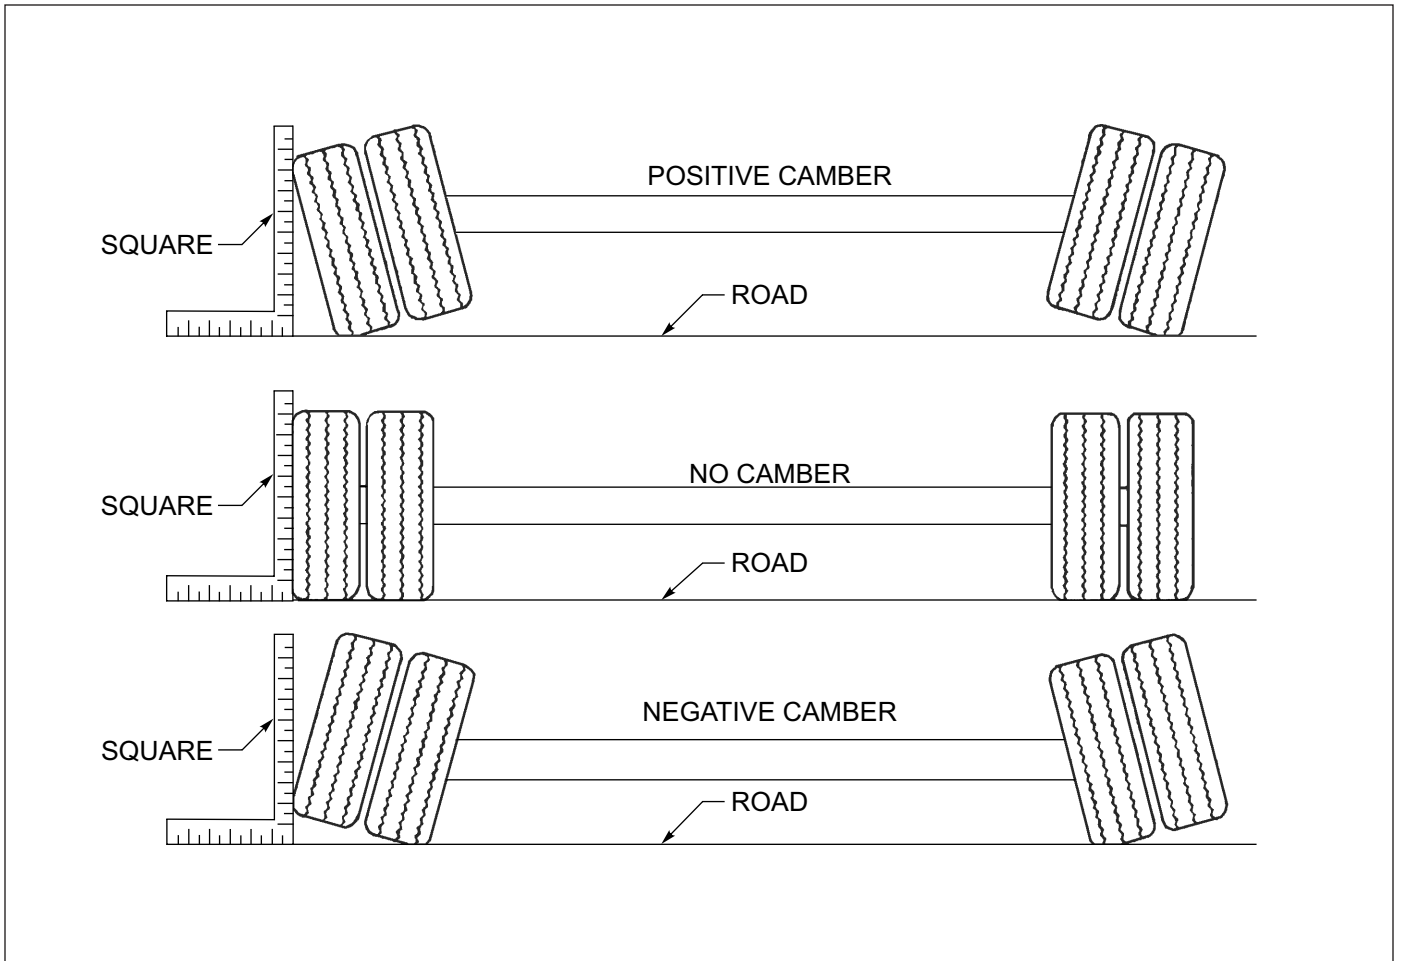

Figure 4-12: Examples of Camber
4. Follow the same procedures as in *steps 2 and 3*, except place the axle gauge above and below the axle. If gauge point gap is found, the axle has positive or negative camber. The trailer axle has no camber from the factory. If it is found to have positive or negative camber, axle replacement is necessary for examples of camber (*See Figure 4-12.*)